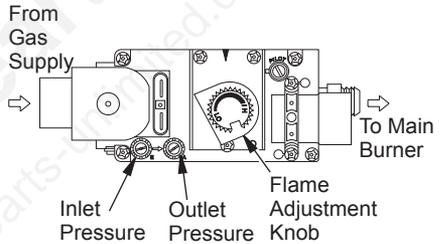

Figure 45 - Electronic Control Valve
The electronic system applies to the (V) DVF36TPNEA/TSTEA and (V)DVF36TPN-PEA/TSTPEA models (see Figure 45).